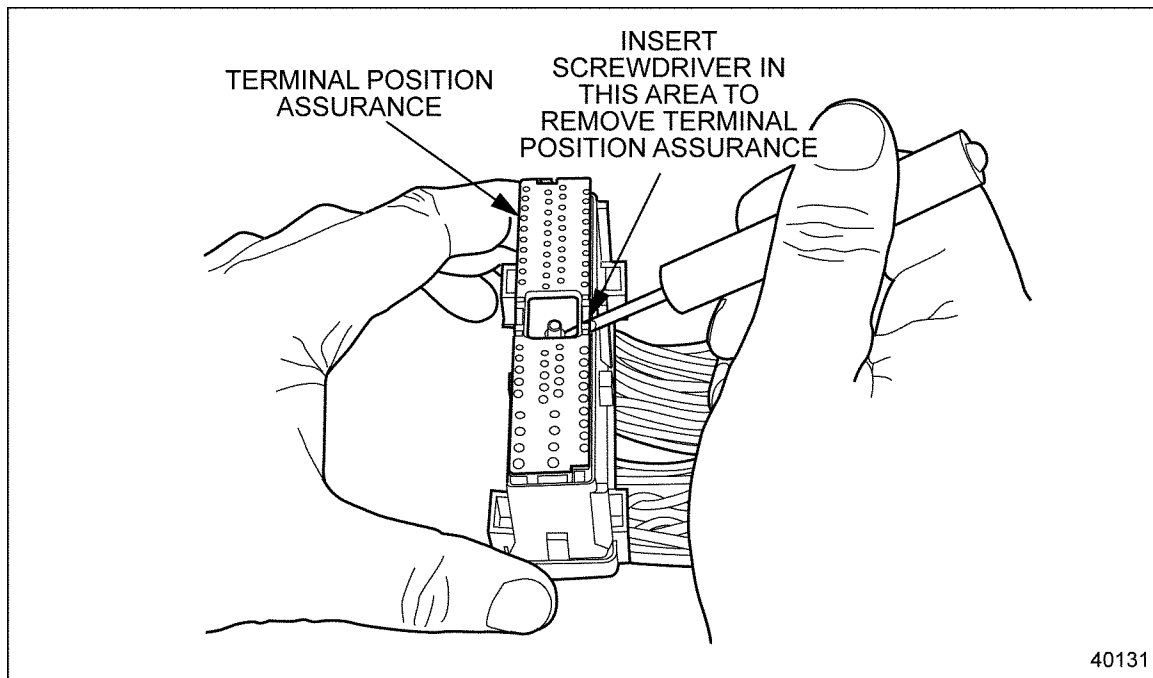

Figure 16-25 Removing the Terminal Position Assurance
1. Remove the Terminal Position Assurance (TPA) from the connector using a jewelers (small) screwdriver (see Figure 16-25).
3. Use the screwdriver to remove the Terminal Position Assurance (see Figure 16-25).